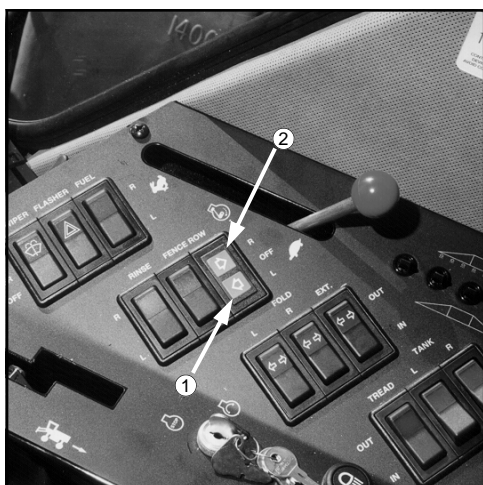

FIG 5.31
A lighted indicator mounted next to the fence row switch will inform the operator of fence row status. If the right fence row nozzle is on, the right indicator arrow is lit (fig. 5.31, item 2). If the left fence row nozzle is on, the left indicator arrow is lit (fig. 5.31, item 1). If neither indicator arrow is lit, no solution is being applied through the fence row nozzles.